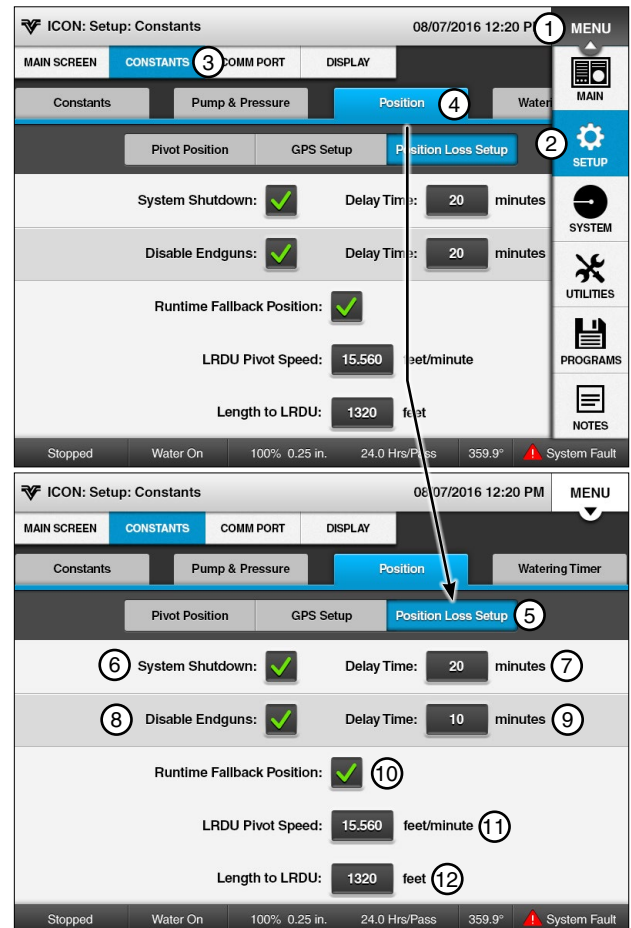

Figure 31-1 1. Menu 7. System Shutdown Delay
1. Check the **System Shutdown** checkbox. See Figure 31-1.
1. Check the **Disable Endguns** checkbox. See Figure 31-1.
1. Check the **Runtime Fallback Position** checkbox. See Figure 31-1.